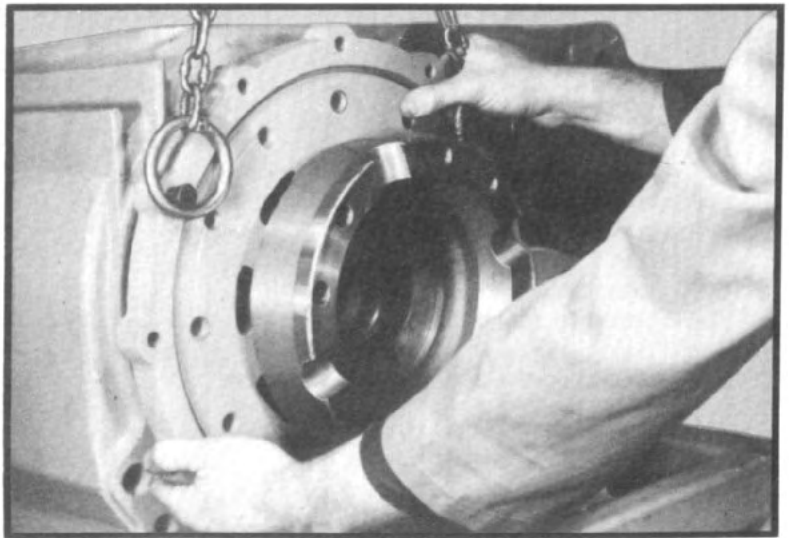
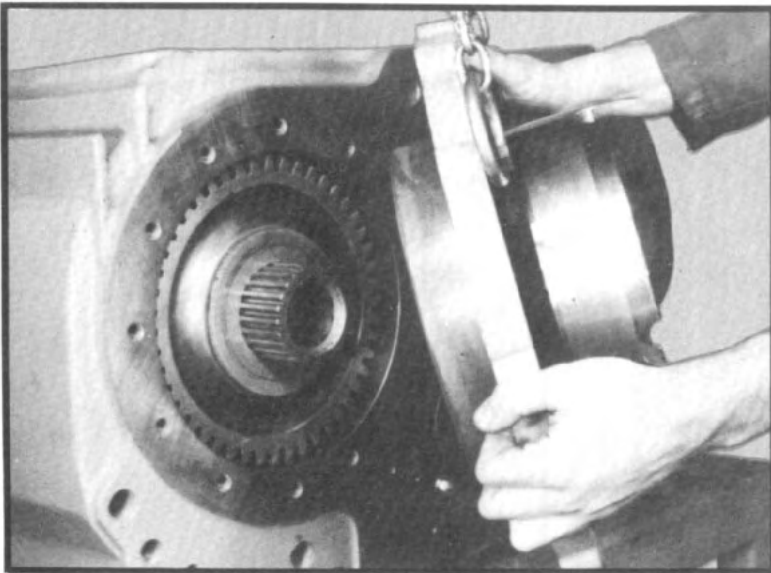

Fig 52.
Fig. 53
- 2.17 Remove fifteen capscrews from rear faceplate and remove face plate and differential case front half from housing. It is recommended that two bolts or eyebolts be attached to the face plate and a chain hoist be attached to the bolts or eye bolts with a chain. (See fig. 52.) The face plate can then be worked out of transfer case housing, supported by the chain hoist. (See fig. 53.)